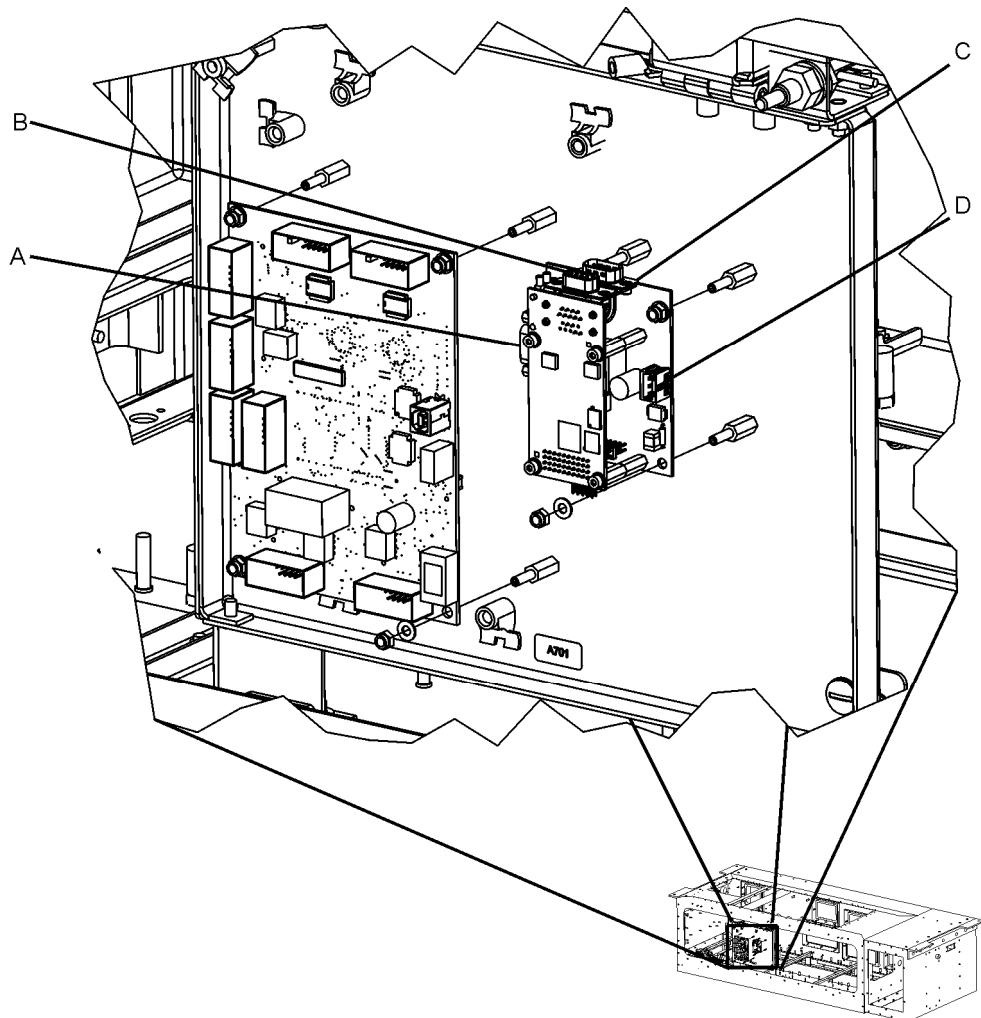

Figure 5-55: A751 Electrical Connections
- a. There are four cable attachments (see Figure 5-55) labeled A-D which connect to the A751. Disconnect these cables.
- a. There are four cable attachments (see Figure 5-55) labeled A-D which connect to the A751. Connect these cables.